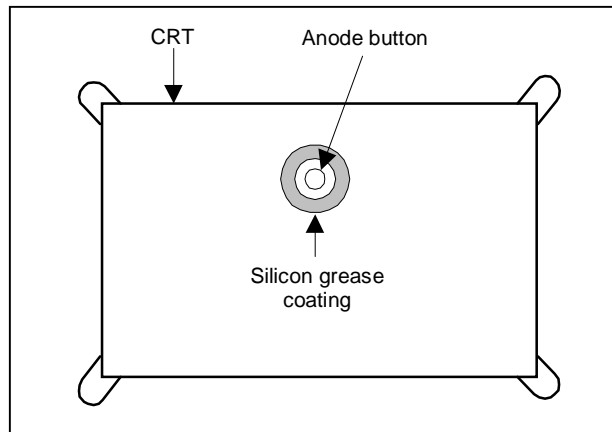
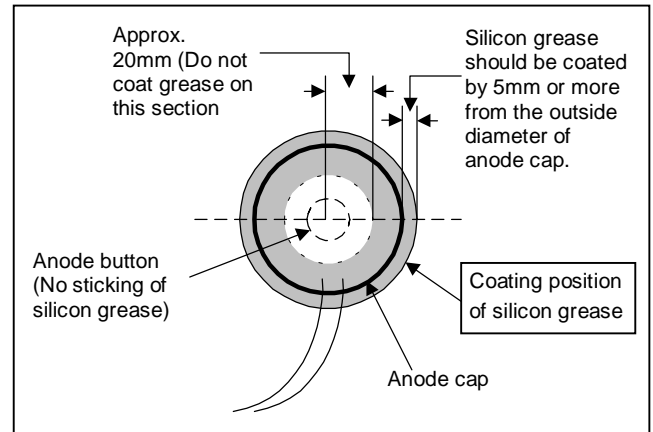

Fig. 7
Fig. 8
- Subsequent to replacement of the CRT and HV transformer or repair of the anode cap, etc. by dismounting them, be sure to coat silicon grease for electrical insulation as shown in Fig.7. Wipe around the anode button with clean and dry cloth. (Fig.7) Coat silicon grease on the section around the anode button. At this time, take care so that any silicon greases dose not stick to the anode button. (Fig.8)